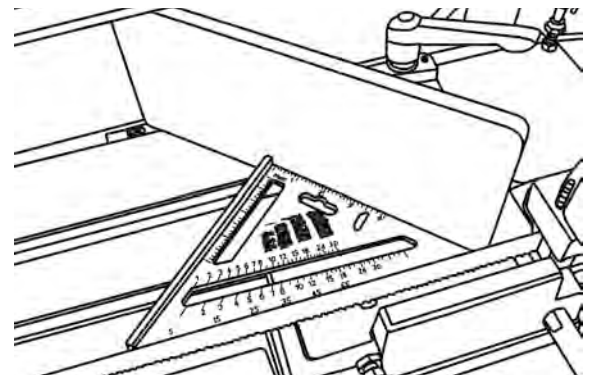

FIGURE 12
2. Place one end of a 45 degree square against the vise jaw and the other end against the blade and check to see if the vise jaw is 45 degrees to the blade. See Fig.12.